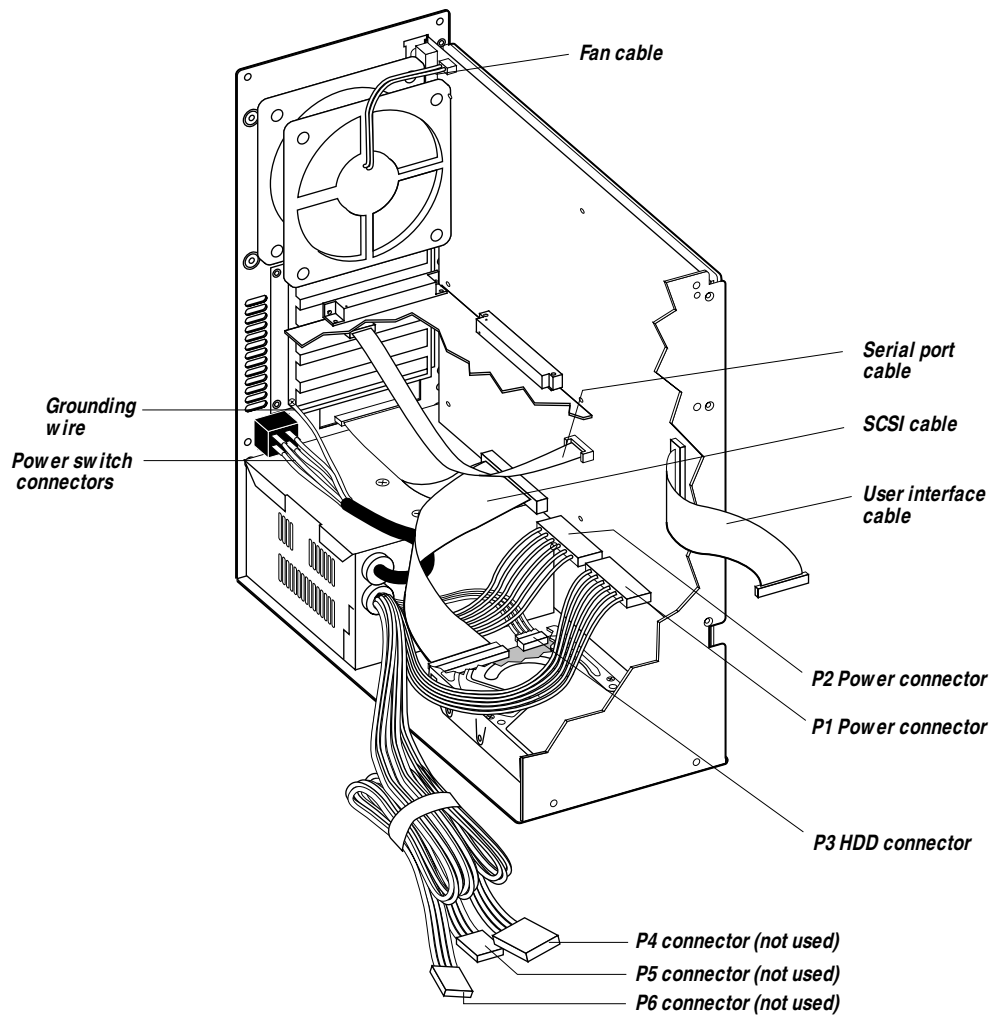

Figure 5-5 Cable connections in the Fiery XJ-R/R2
5. ***Make sure that all Fiery XJ-R/R2 ribbon cables are seated on connectors. See Figure 5-5 on page 5-9 and Table 5-1 on page 5-10.***